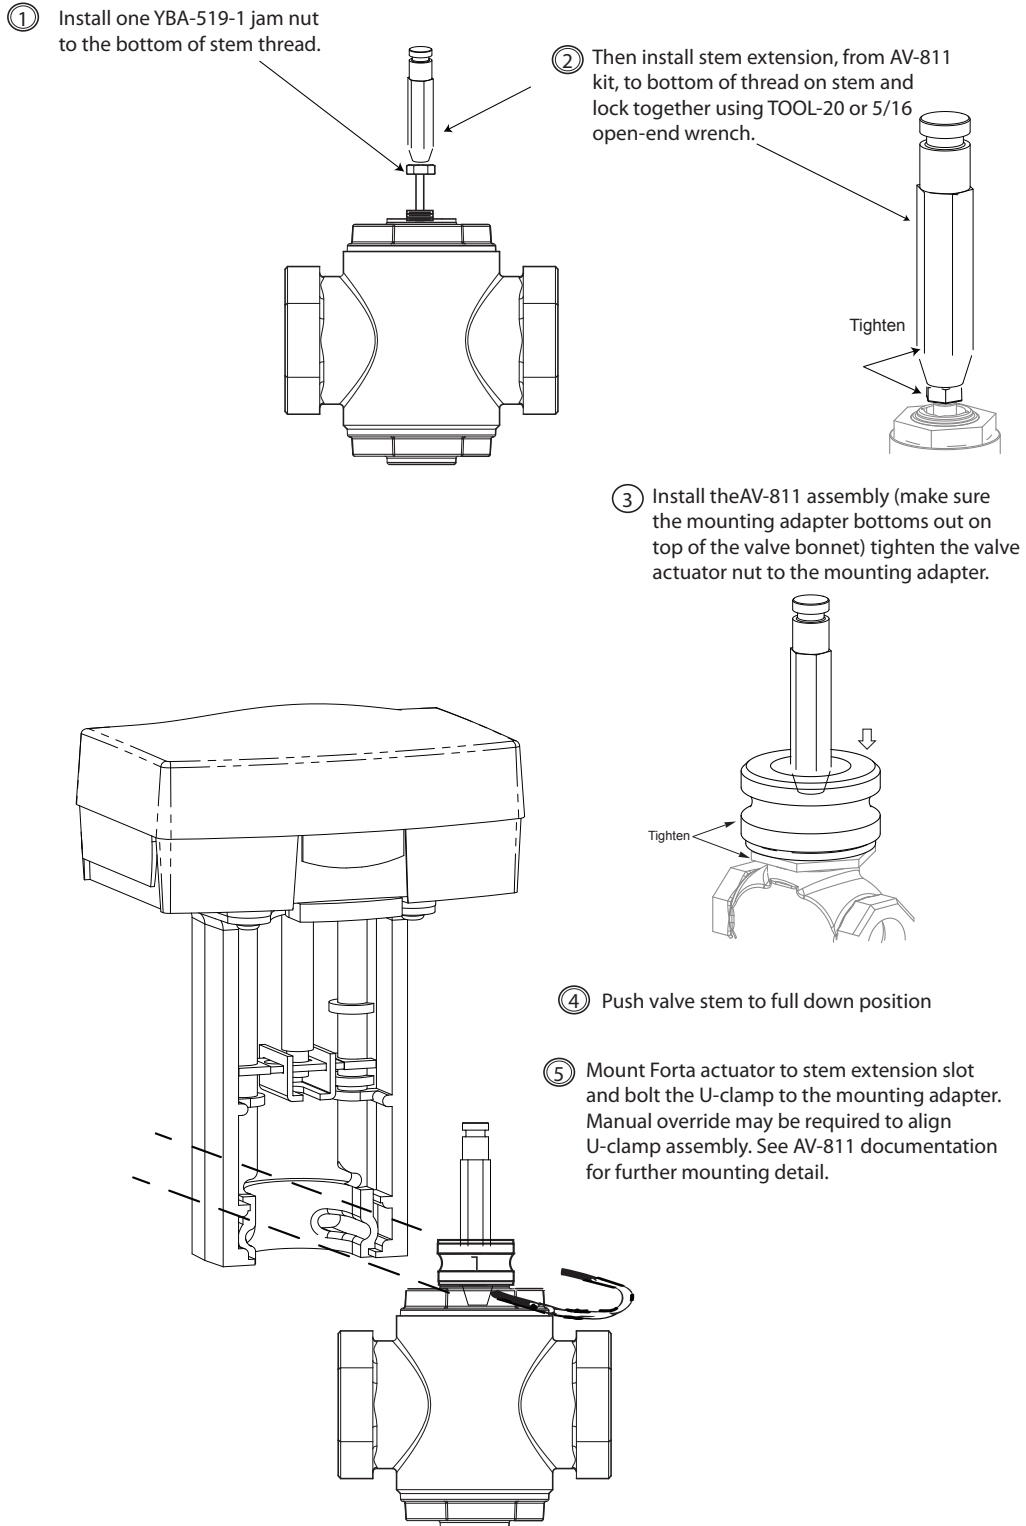

Figure-4 Assembling the Forta Actuator Onto a Style A Valve Body.
2. Assemble the new linkage to the valve, according to Figure-4.